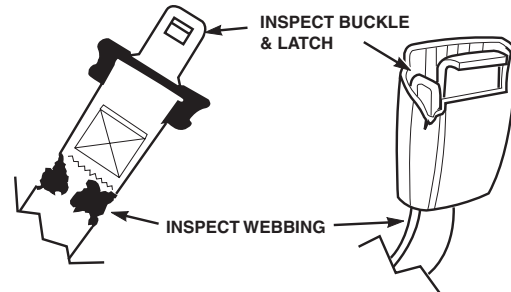

Figure 2-4 Seat Belt Inspection
1. Check the full length of the seat belt webbing for cuts, wear, fraying, dirt and stiffness. See Figure 2-4.
3. Check the buckle and latch for proper operation and determine if the latch plate is excessively worn, deformed, or if the buckle is damaged or cracked. See Figure 2-4.